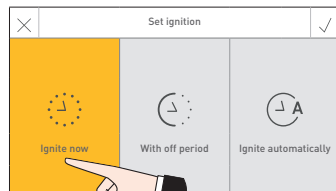
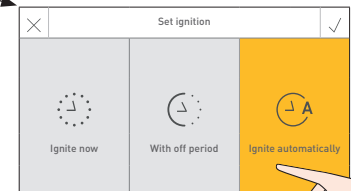

Fig. 14
Fig. 16
- 5.) Select the required type of ignition – Fig. 14–Fig. 16.